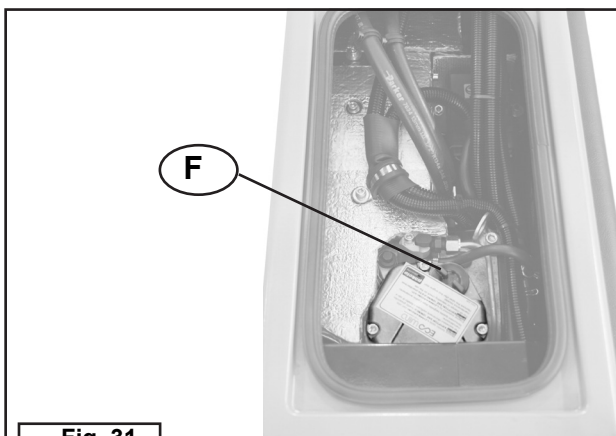

Fig. 31
6	Unscrew and remove the plug (F) and add the amount of oil needed using a funnel (fig. 31).